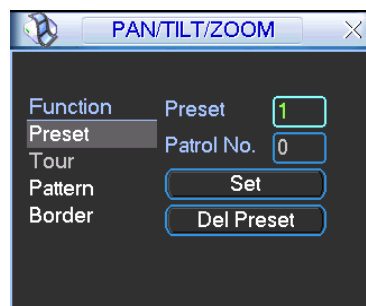
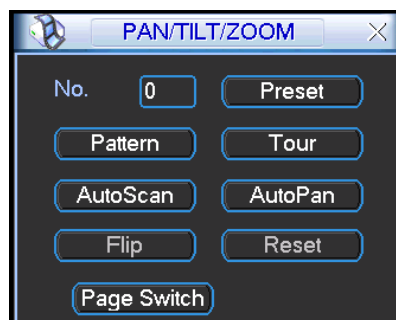

Figure 4-40
Figure 4-41
In Figure 4-37, please click the “set” button. The interface is shown as below. See Figure 4-40.
In Figure 4-37, click page switch button, the interface is shown as in Figure 4-41. Here you can activate the following functions:
- The following setups are usually operated in theFigure 4-37, Figure 4-40 and Figure 4-41.
In Figure 4-40, click preset button and input preset number. The interface is shown as in Figure 4-42.
In Figure 4-41, please input preset number in the No. blank, and click preset button.
In Figure 4-40, input patrol (tour) number in the No. blank and click patrol button
In Figure 4-40, click pattern button and then click “begin” button. The interface is shown as in Figure 4-44. Then you can go to Figure 4-37 X to modify zoom, focus, and iris.
In Figure 4-41, click “Auto Scan” button, the system begins auto scan. Correspondingly, the auto scan button becomes Stop button. Click stop button to terminate scan operation.
In Figure 4-41, click page switch button, you can see an interface is shown as below. See Figure 4-46. Here you can set auxiliary function. The aux value has relation ship with the Aux button of the decoder.